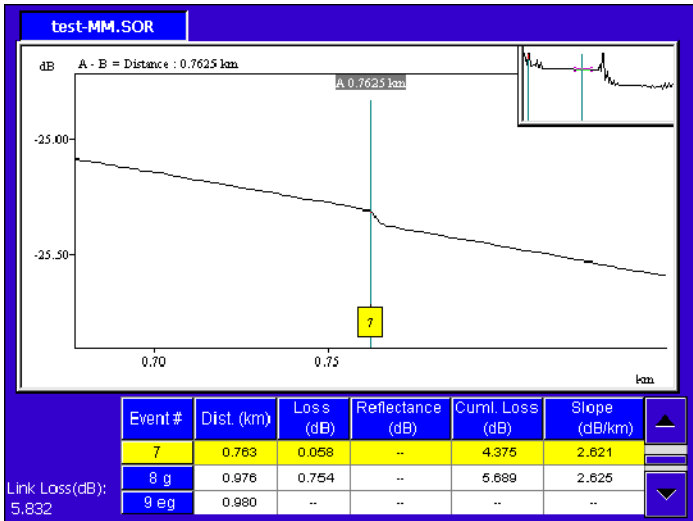

Figure 2-21: Event 7 is a good (low loss) fusion splice
14. Look at Event 7 shown in Figure 2-21.